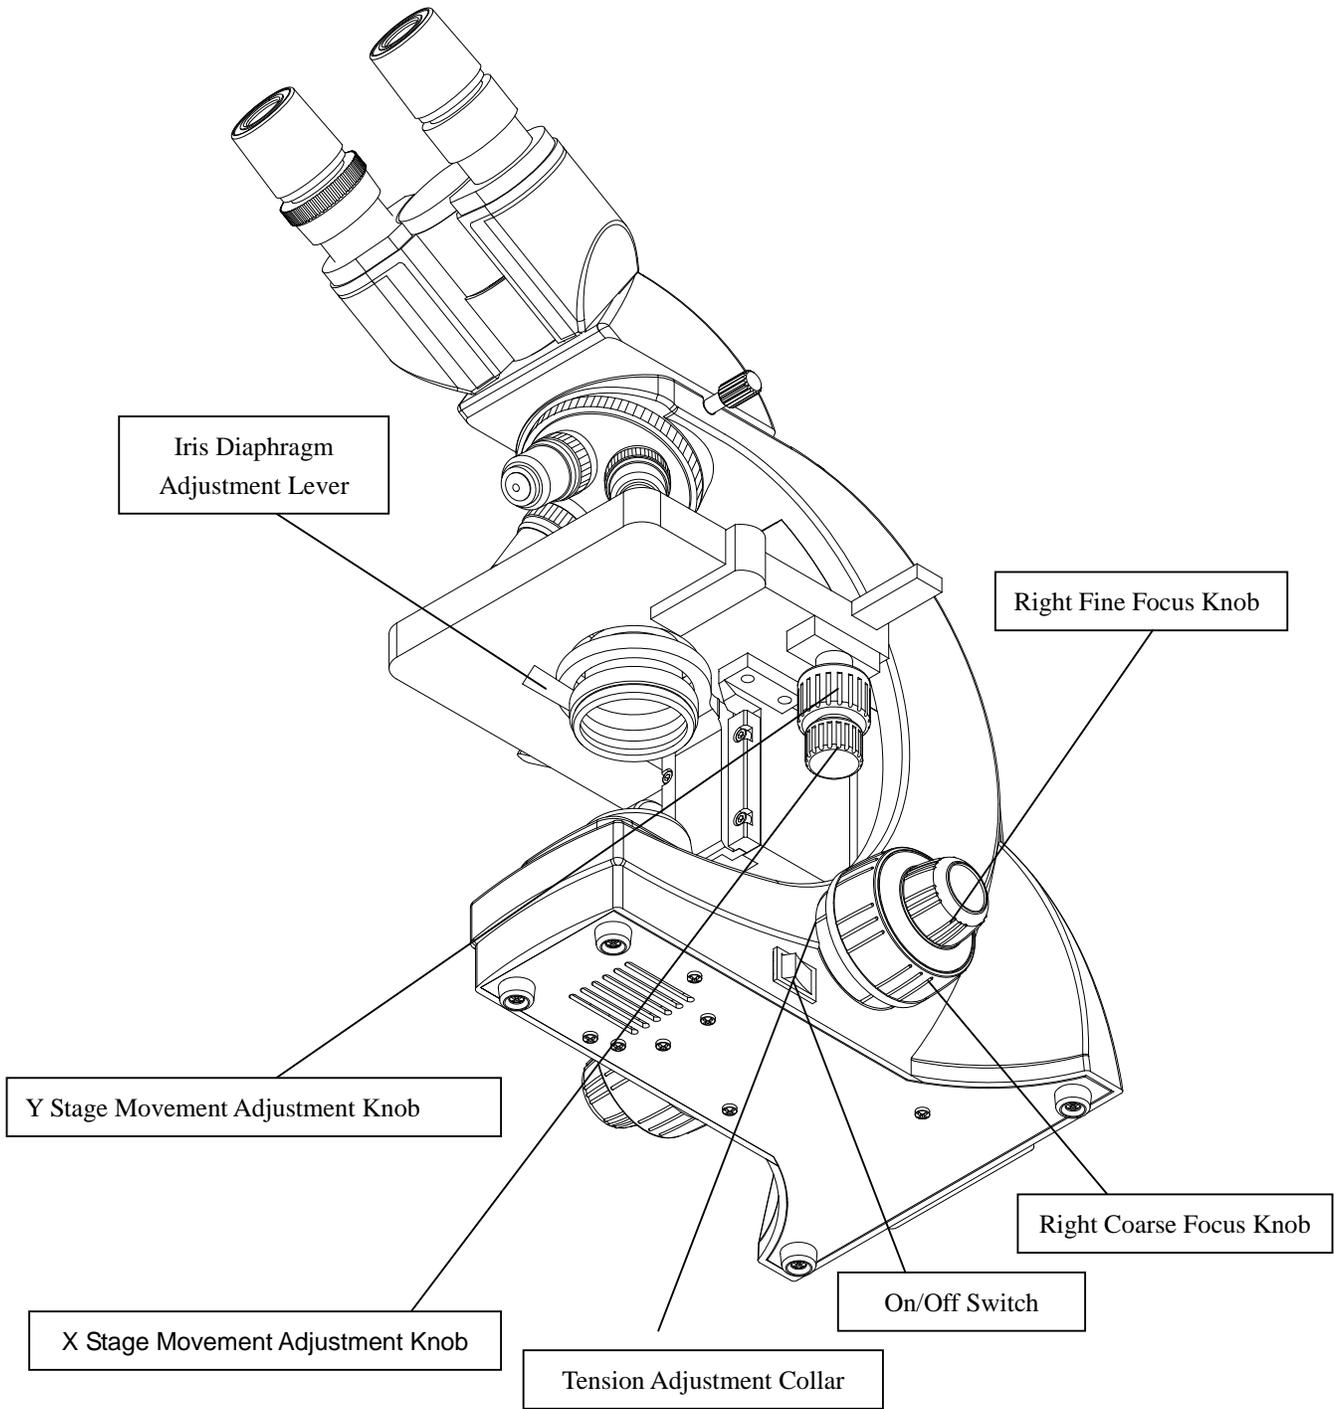

Figure 15
1. Connect the power cord; turn on the main switch (Figure 15) to “-” (on).